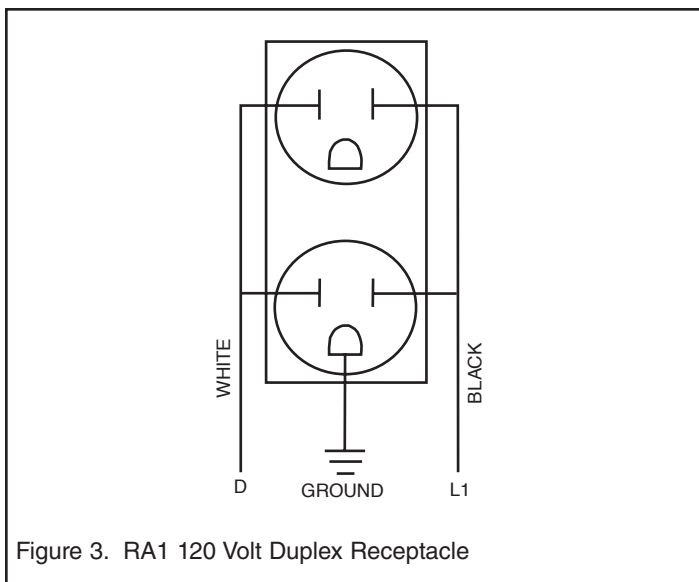

Figure 3. RA1 120 Volt Duplex Receptacle
5. Connect branch circuit supply to duplex receptacle as shown in wiring diagram, (Figure 3).